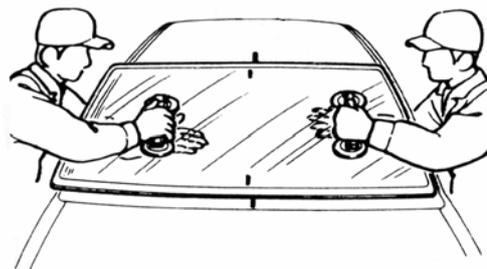

Fig. 19-2
- 6 Make alignment mark on the body and windshield, then, using vacuum glass holder to remove the windshield from the body as shown in Fig.19-2.